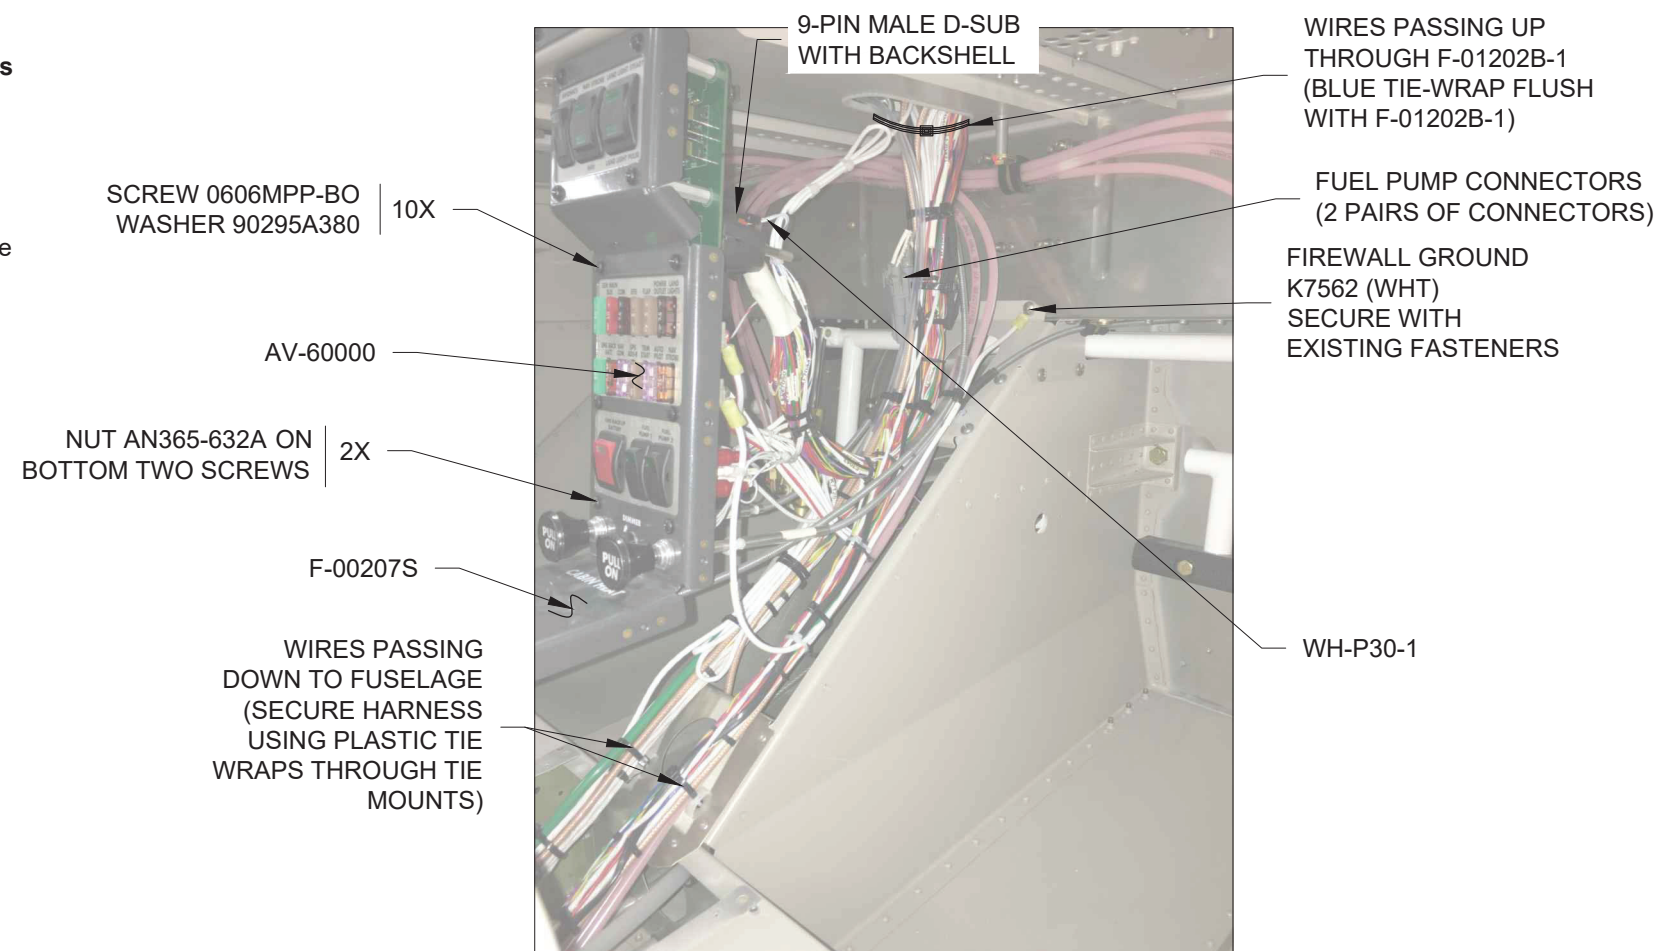

FIGURE 2: INSTALLING AV-60000
Step 7: Secure the AV-60000 to the F-00207S as shown in Figure 2.